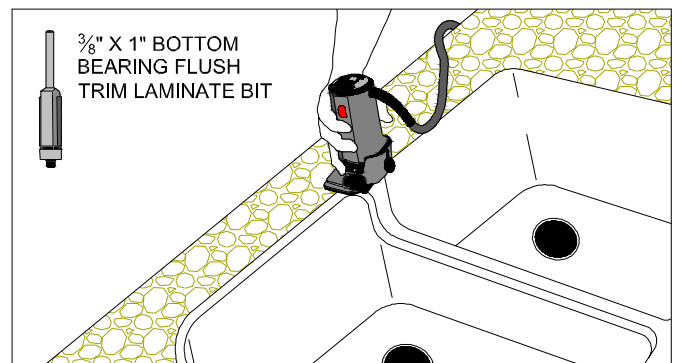

Figure 22B
- Adjust the laminate tilt-base trim router with a $\frac{3}{8}$ " bottom bearing flush trim bit. (FIG. 22B)